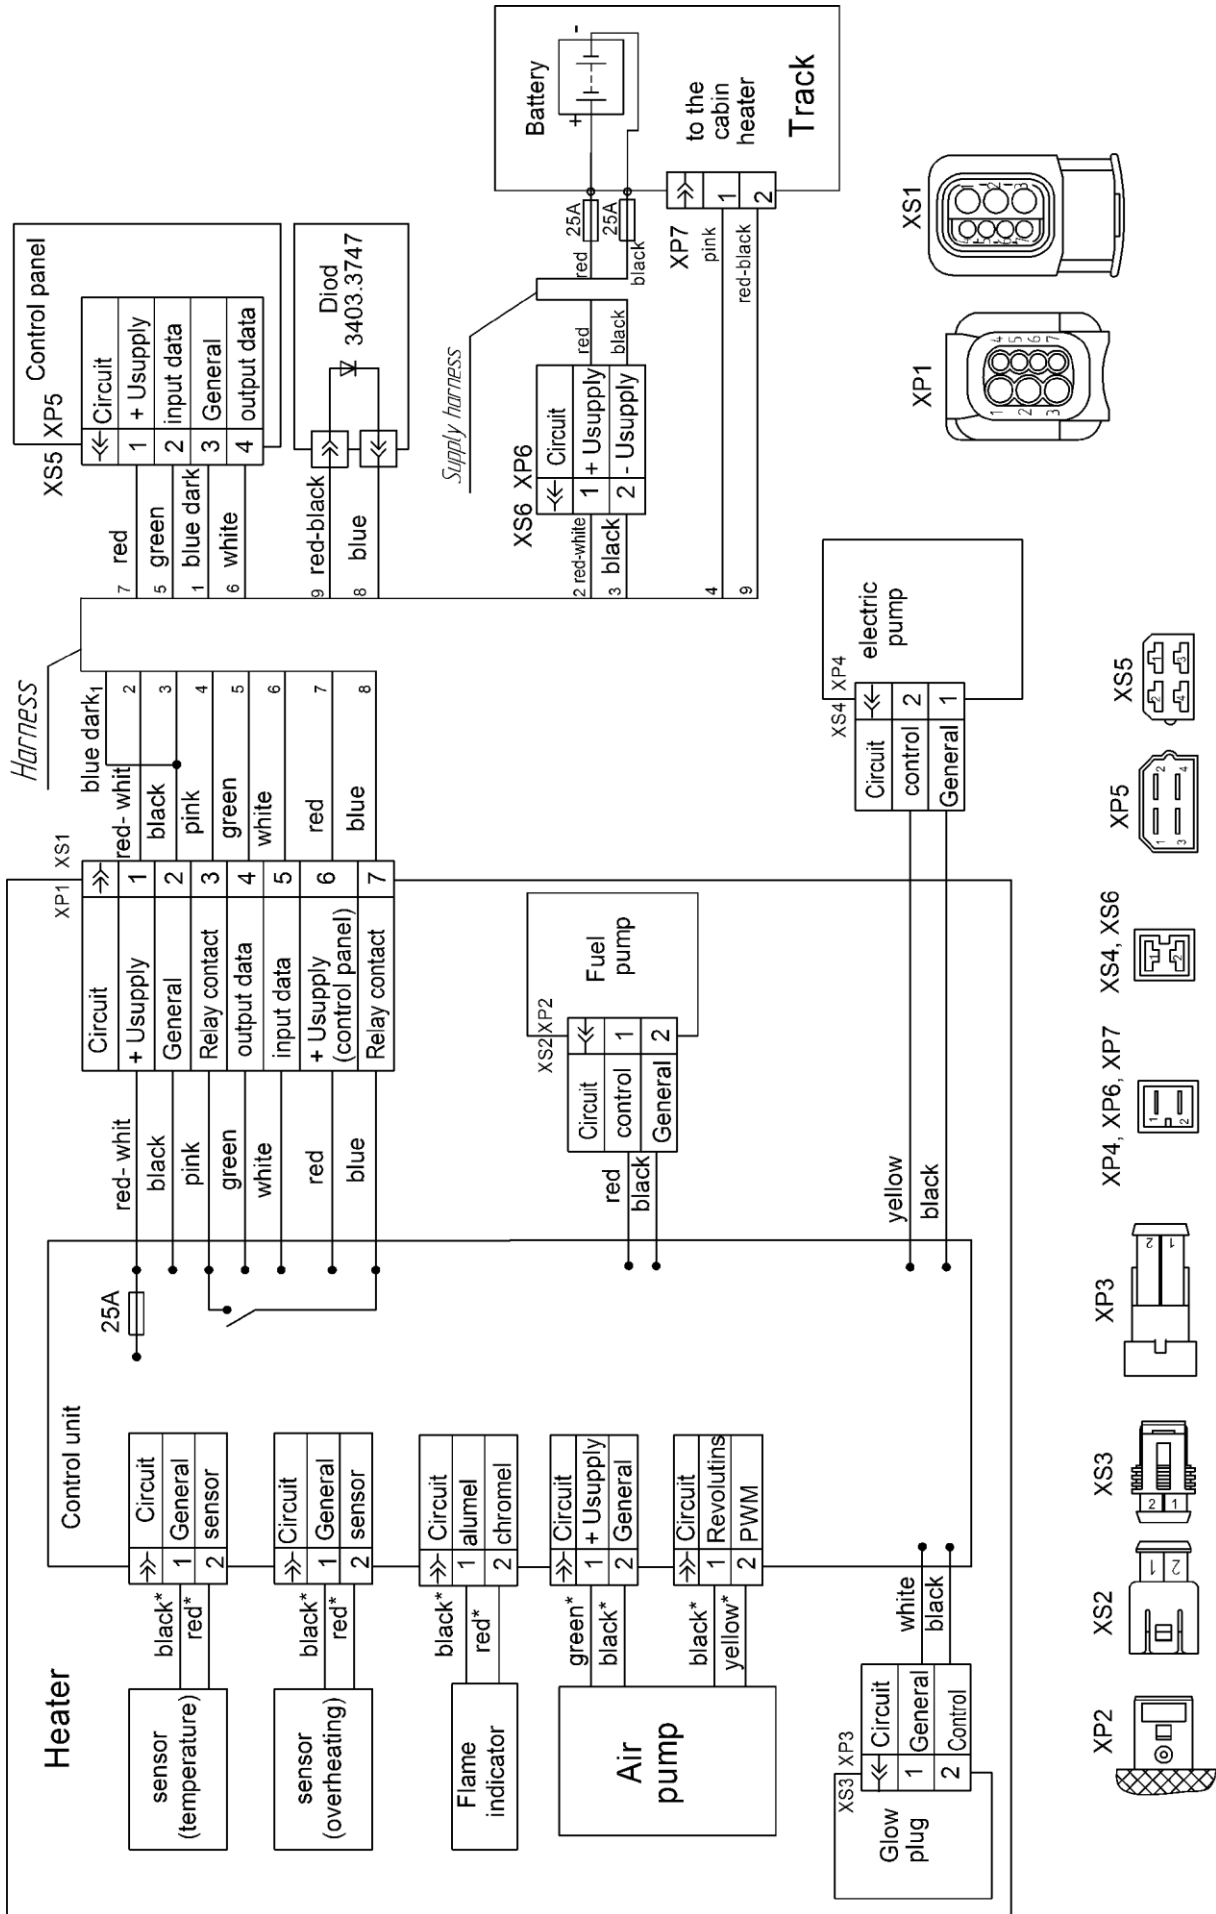

Figure 1- Electric circuit
The pre-heater is fueled and powered from the truck. The pre-heater electric circuit is given in Figure 1.
8.1 Trouble-shooting shall be started with checking the connector terminals and corresponding circuits (refer to Table 2 and Electric circuit in Figure 1).